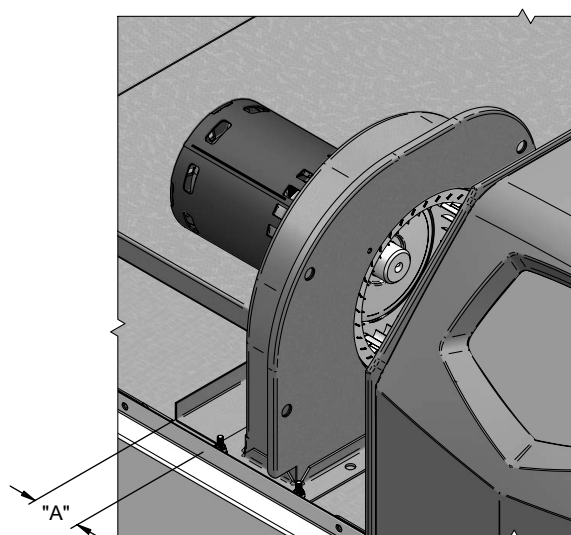

Figure 2-7_Combustion Air Fan with Air Shutter "A" Dimension
5. Use a ruler to measure the distance from the base of the fan to the end of the air shutter (FIG. 2-7). Compare this distance to the specified "A" dimension for the pool heater in Table 2B.